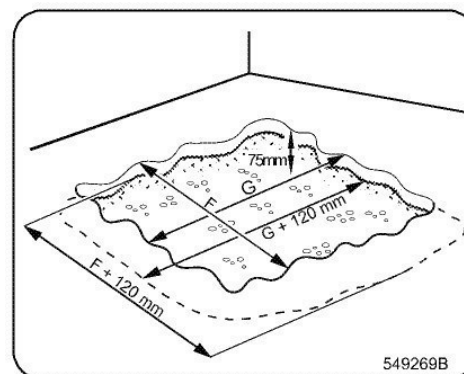

Figure 13 – Rigid-mount machines,
- Break and remove the existing floor down to the depth of approx 75mm / 2.95", see figure 13. The longest dimensions of the lower part of the hole must be by 120 mm / 4.72" longer than the dimensions of the upper part of the hole. G and F dimensions - see table 22.